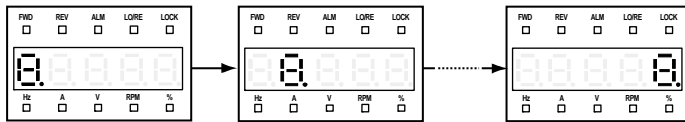

Figure 5-13 Starting display of the display panel self-checking
1. In stop status, press **▶▶** and **◀◀** simultaneously for 2–3 seconds, the 5-bit LED will cyclically display “8.” from left to right in turn for three times which is as shown in Figure 5-13. Later, the indicator will be cyclically bit by bit clockwise lighting from the first upper left for three times.